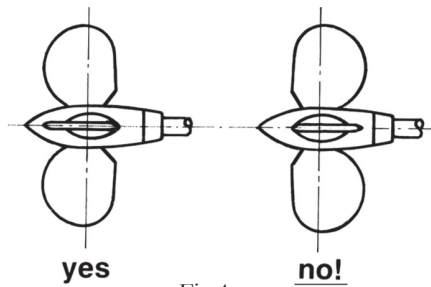

Fig.4
D) Move the blades into the feathered position, making sure that the rounded trailing edges of the blades are aft as shown in Fig. 4
- In the feathered position the blades must be perfectly lined up and set like Fig. 4.